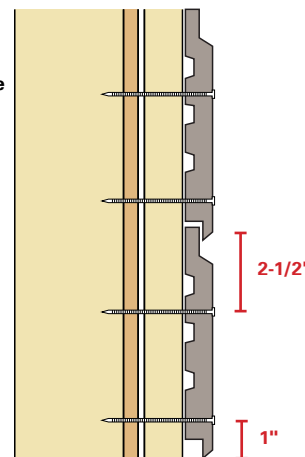

Fig. 17
- For all other profiles nail siding at 2-1/2" from the top (long edge) and 1" from the base (long edge) of the siding board to prevent cupping. *(See Figure 17)*